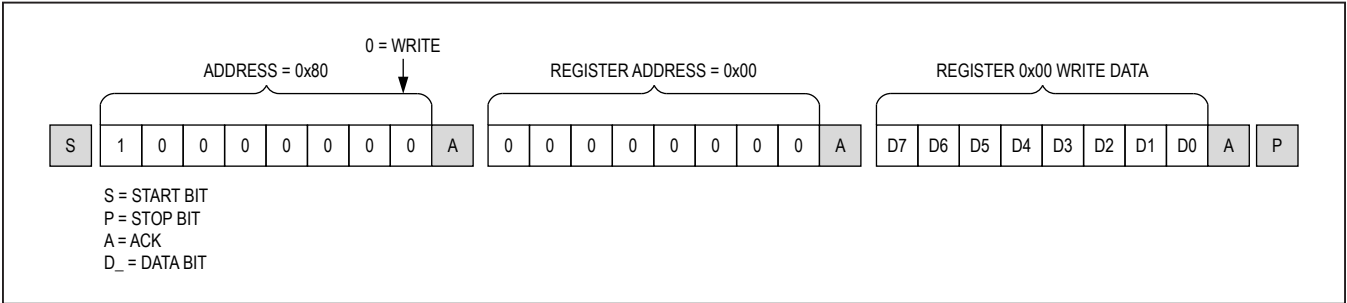
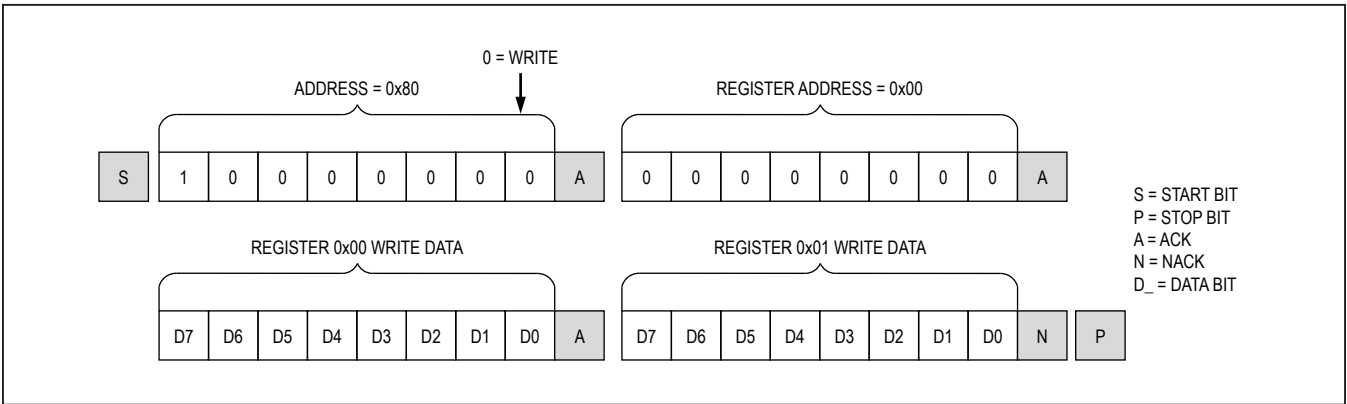

Figure 35. Format for I2C Write
Figure 36. Format for Write to Multiple Registers
Writes to the serializers comprise the transmission of the slave address with the $R/\overline{W}$ bit set to zero, followed by at least one byte of information. The first byte of information is the register address or command byte. The register address determines which register of the device is to be written by the next byte, if received. If a STOP (P) condition is detected after the register address is received, the device takes no further action beyond storing the register address (Figure 35). Any bytes received after the register address are data bytes. The first data byte goes into the register selected by the register address, and subsequent data bytes go into subsequent registers (Figure 36). If multiple data bytes are transmitted before a STOP condition, these bytes are stored in subsequent registers because the register addresses autoincrements.